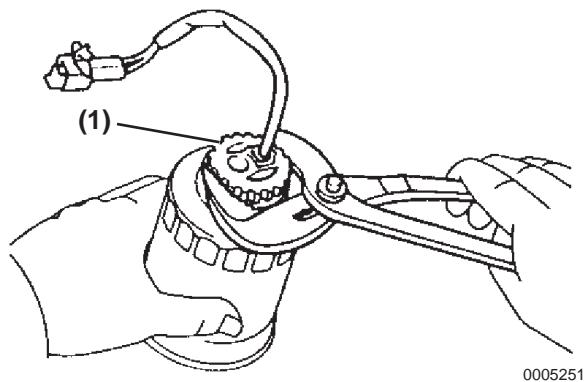

Figure 6-5
4. Remove the water alarm switch and O-ring from the fuel filter using pliers (Figure 6-5, (1)).